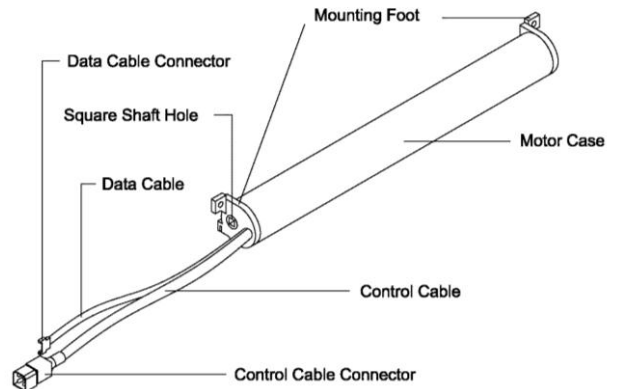
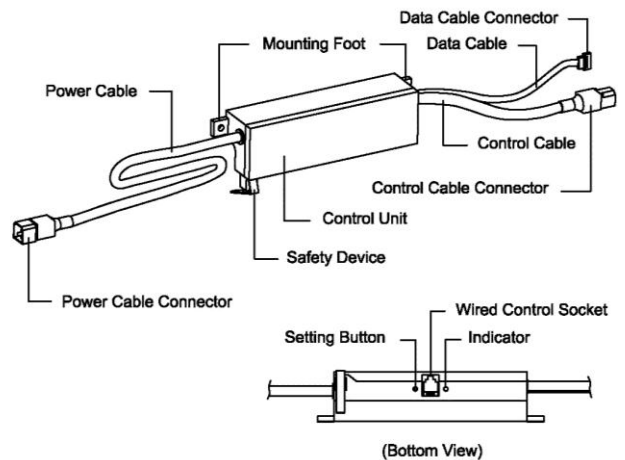
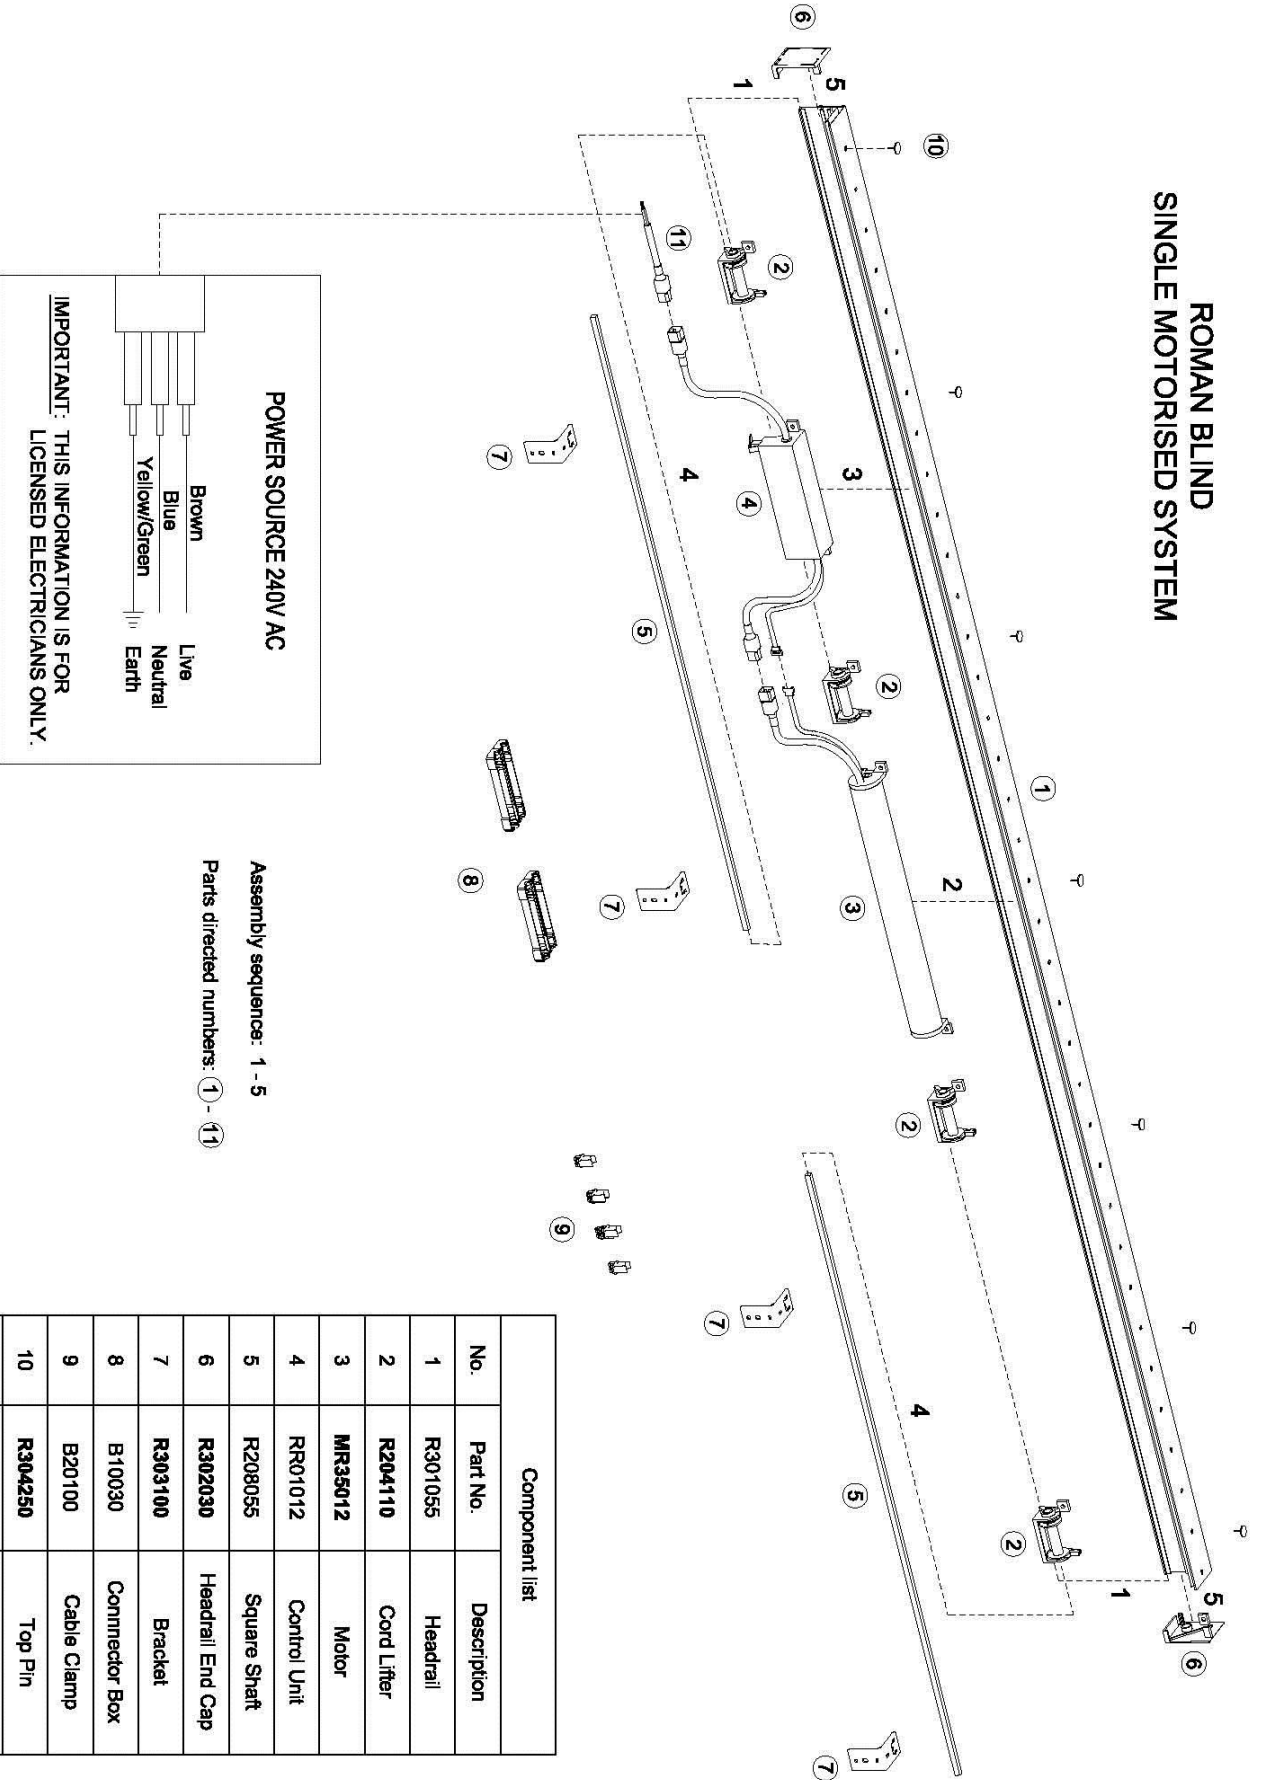
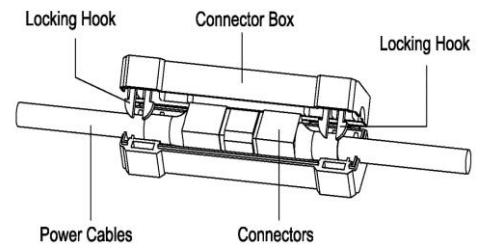

Figure 1
Figure 2
Figure 4
Figure 9
The **BetterDecor roman blind motor** consists of five main parts: a motor, a brake, two decelerators (and two outputs for shaft insertion) and an external control unit. For an external view of the motor, refer to Figure 1.
The **external control unit** (receiver) allows for smooth running of the motor, accurate positioning of the blind and overall safe operation. The control and data cables are connected to the corresponding cables of the motor, and the power cable is connected to a 240V power supply. The external control unit also features a safety device that stops the motor once the blind reaches its topmost position. Refer to Figure 2
- Connect the control and data cables of the motor (Figure 1) and control unit (Figure 2) accordingly, then place the control cable connectors into a connector box and lock it. Refer to Figure 9.
3. Plug the control unit's power connector to the 240V power lead installed on right hand side of the blind (Refer to Figure 4 for wiring diagram), then place the power cable connectors into a connector box and lock it (Refer to Figure 9). The control unit will emit a long beep to signal that power supply is ready.
1. Press the setting button on the bottom of the control unit (Refer to Figure 2). It will emit 1 short beep to indicate readiness for the first channel number to be selected.